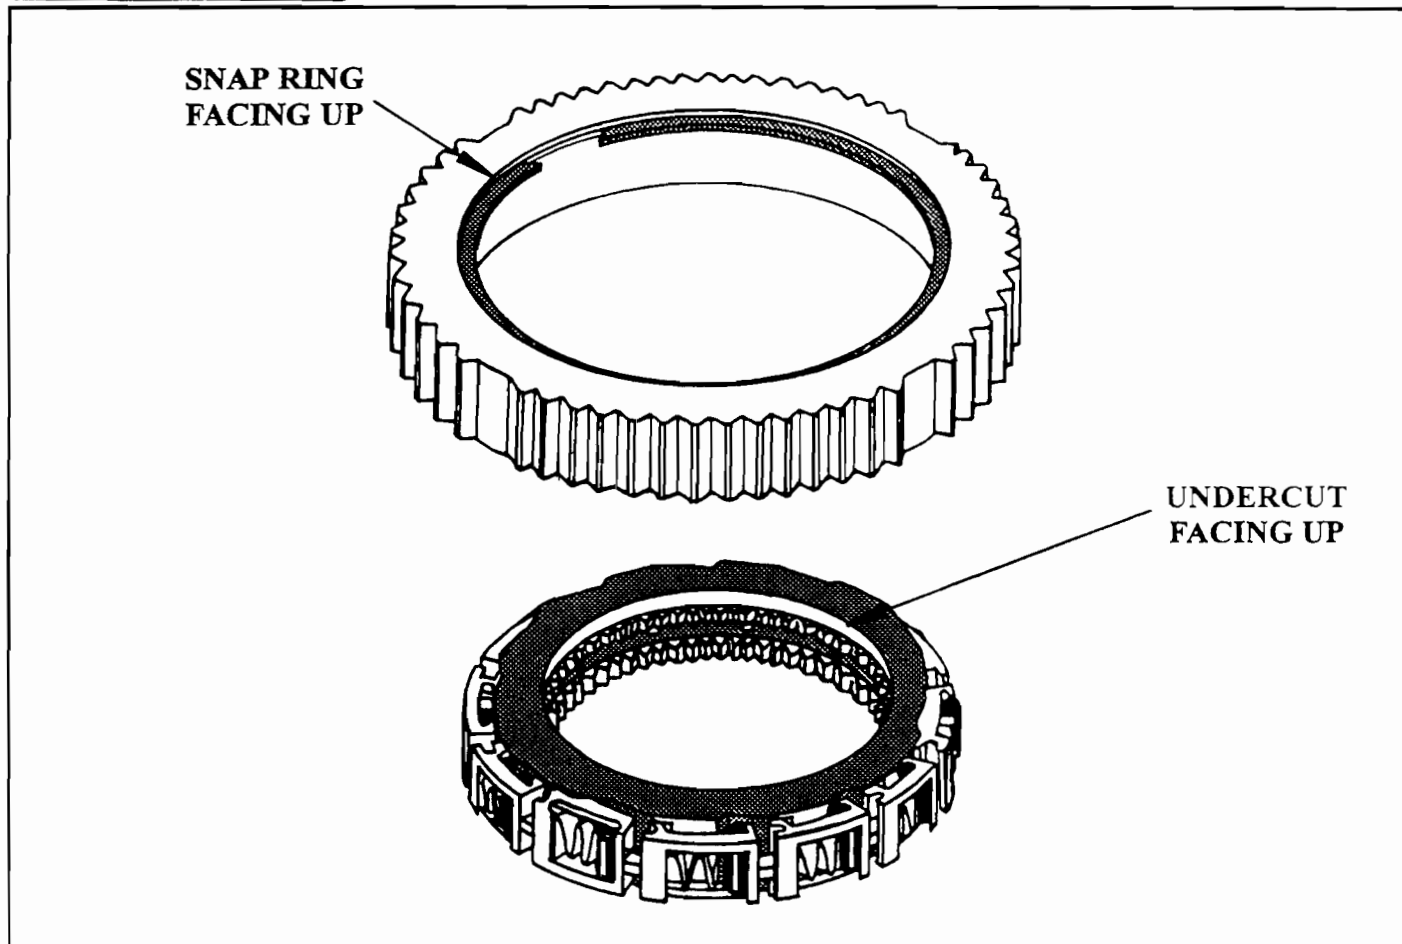

Figure 24
- (4) Install the snap ring into the groove in the outer race, as shown in Figure 24.